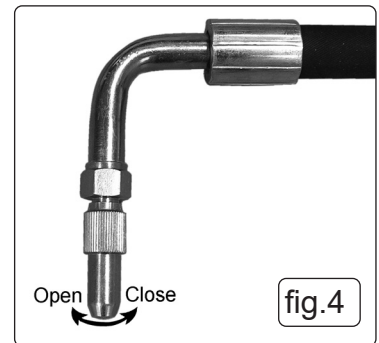

fig.4
- 5.3.2. With the nozzle pointing into the receiving container, open the nozzle valve as shown in fig.4.